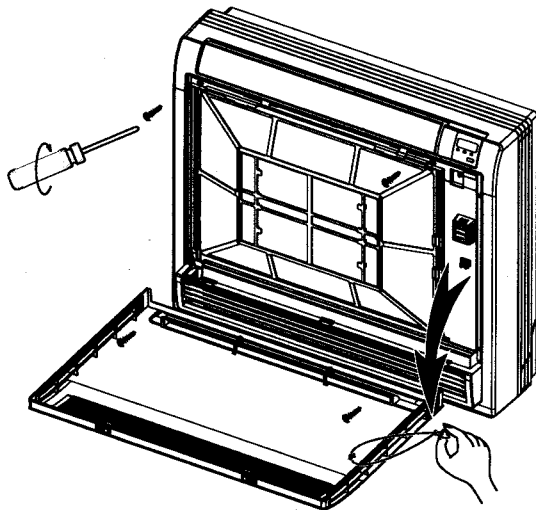

Fig.7-2
- Remove the string. (Refer to Fig.7-2)